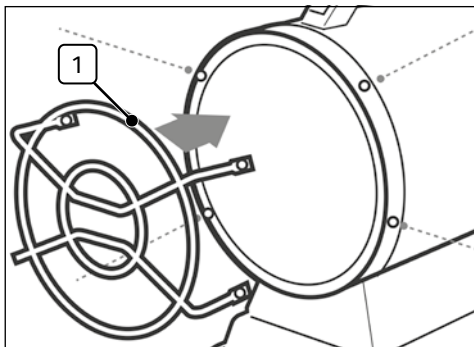
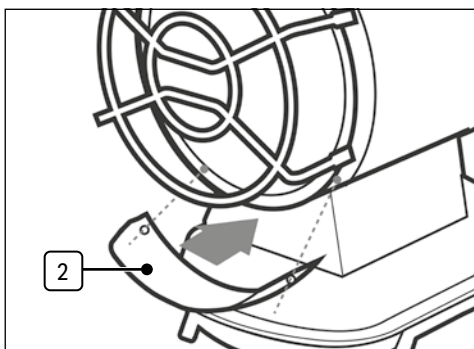

Fig. 1
Fig. 2
6.1 Fitting Safety Guard and Reflector (Fig.1 – Fig.2)